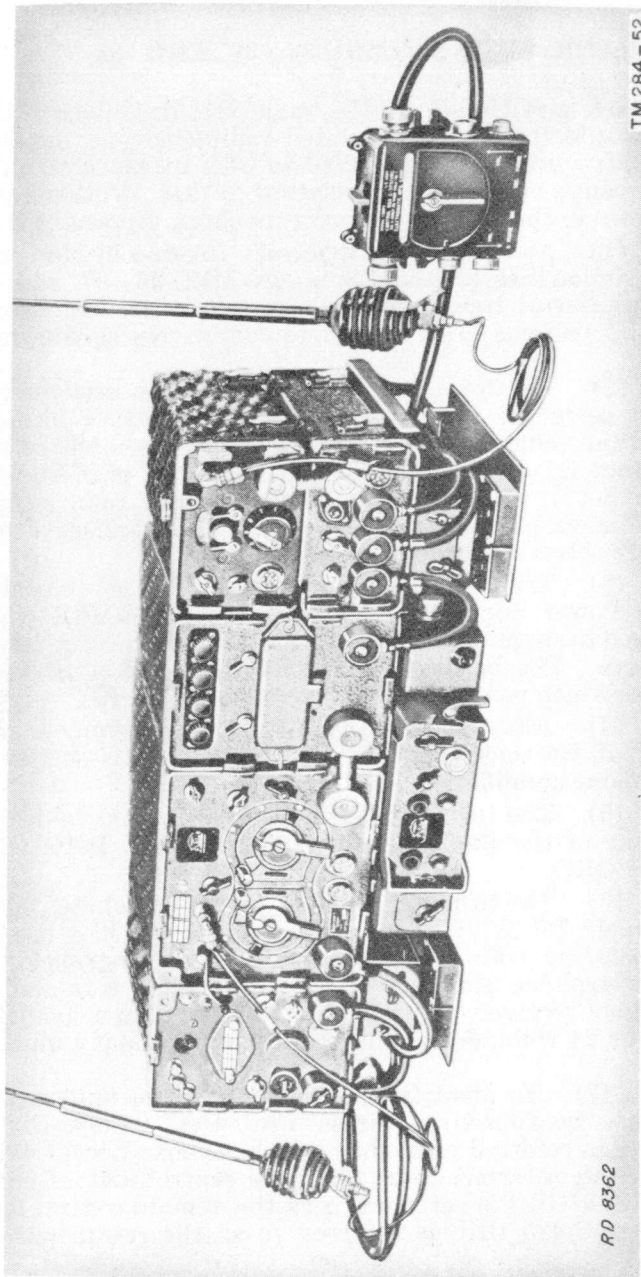

Figure 39.—Radio Set AN/MRC-36, removed from vehicle.
49. **General System Description.**—a. Radio Set AN/MRC-36, Figure 39, is typical of the sets discussed in this section. The table of components, Figure 40, and the system cordage diagram, Figure 50, are helpful in the understanding of the various systems.
(1) Two receiver-transmitters, an interphone amplifier, suitable power supplies, and an auxiliary receiver.
- (2) A mounting.
- (3) Four control units.
- (4) Suitable antenna systems and interconnecting cables.
c. Figure 39 shows the major components of Radio Set AN/MRC-36 connected to simulate an operating installation. Receiver-Transmitter RT-66/GRC is utilized as Set 1; Power Supply PP-112/GR furnishes operating voltages for Set 1; Receiver-Transmitter RT-70/GRC is Set 2; and AF Amplifier AM-65/GRC is the interphone amplifier. Operating voltages for Set 2 and the amplifier are furnished by a plug-in power supply unit (Power Supply PP-282/GRC) contained within the amplifier. All of the above mentioned units are secured on Mounting MT-297/GR which is normally bolted to a vehicular mounting surface. The mounting also accommodates one of the control units (either Local Control C-434/GRC, pictured, or Control C-435/GRC) as a plug-in unit. From the mounting, connections are made to the vehicular battery, to the major units supported on the mounting, and to one or more Control Boxes C-375/VRC. When the local control unit is plugged into the mounting as shown, connection is made to Remote Control C-433/GRC by telephone wire. Connections to the antenna systems are made directly from the panels of the Set 1 and Set 2 receiver-transmitters.